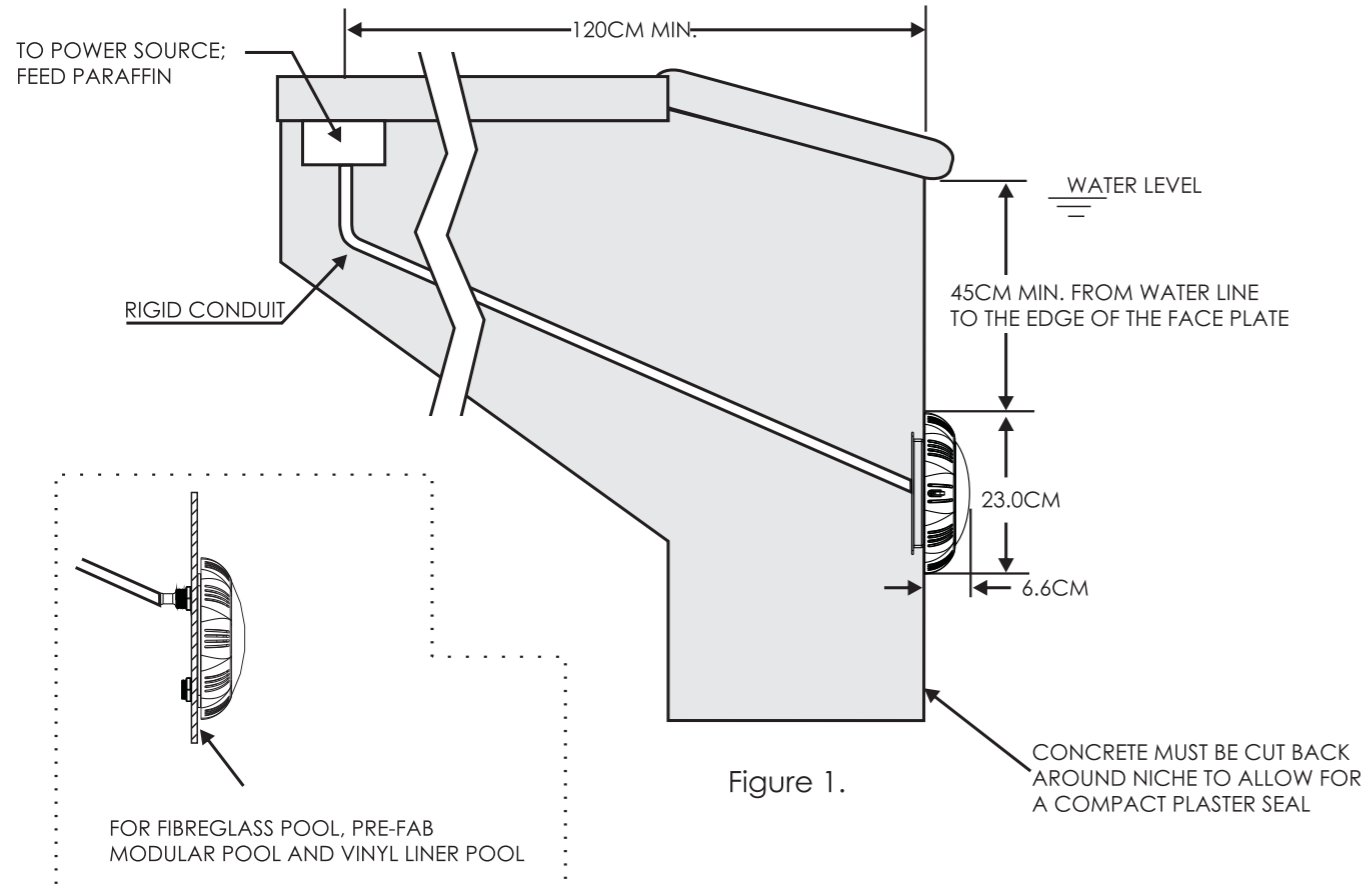

Figure 1.
A) Preparatory steps which must be completed by the electrician before light is installed, see Figure 1.
- a) The junction box, or the low voltage transformer for 12 volt Underwater Light model is to be located at least 120CM from the edge of the pool, see Figure 1.
- c) The mounting bracket must be properly installed so that the top edge of the Underwater Light lens is at least 45CM below the surface of the water in the pool, see Figure 1.
- 1) Locate position on a vertical wall where light is to be installed. The edge of the face plate must be 45CM below normal water level, see Figure 1.